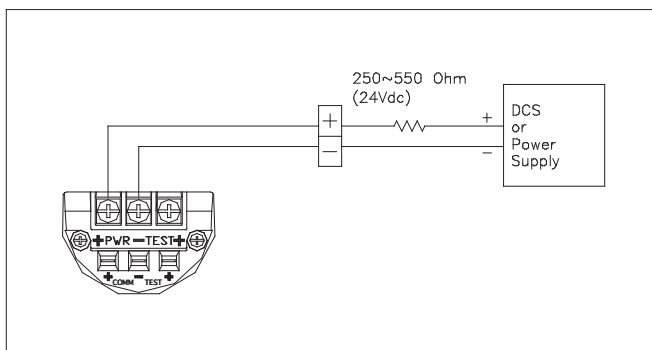

Figure 4-2 Wiring the 3200 Pressure Transmitter
5. You must connect a 250~550 Ohm Resistor in Current Loop (between Power Supply and Transmitter) for HART® Communication. See Figure 4-2.